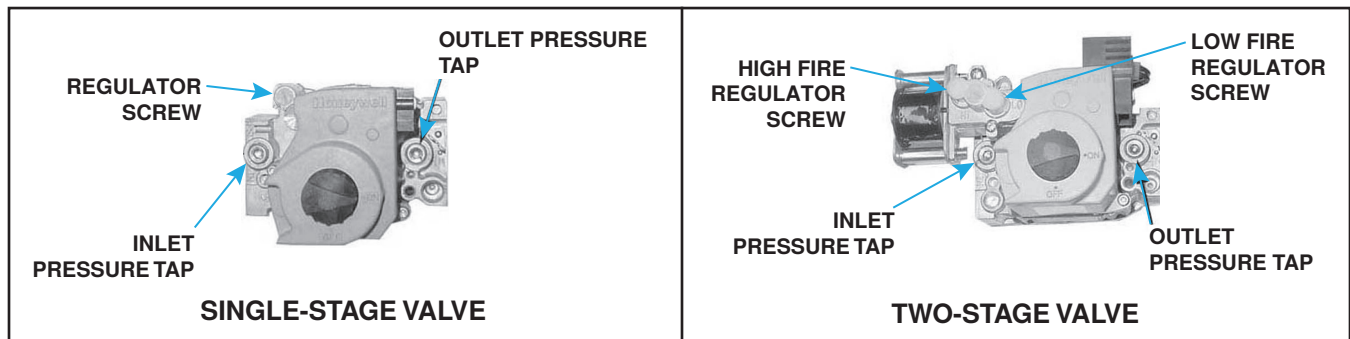

Figure 19. Combination Gas Valves
1. With manual valve (on combination valve) positioned to prevent flow to main burners, connect manometer to outlet pressure tap (see Figure 19) on valve.
3. Normally, adjustments to factory-preset regulator should not be necessary. If adjustment is necessary, set pressure to correct settings by turning regulator screw (see Figure 19) IN (clockwise) to increase pressure or OUT (counterclockwise) to decrease pressure. Consult valve manufacturer's literature provided with furnace for more detailed information.